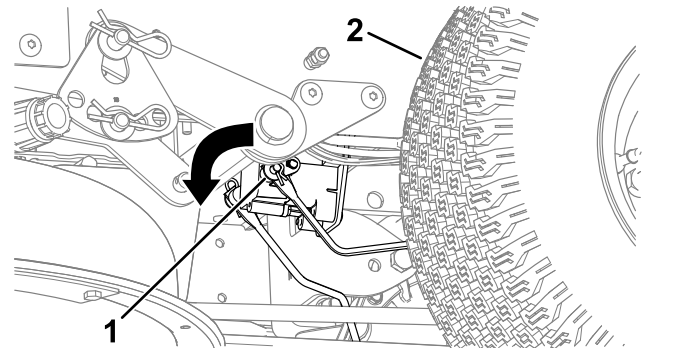

Figure 46
2. Locate the shaft on the electric brake where the brake link arms are connected (Figure 46).